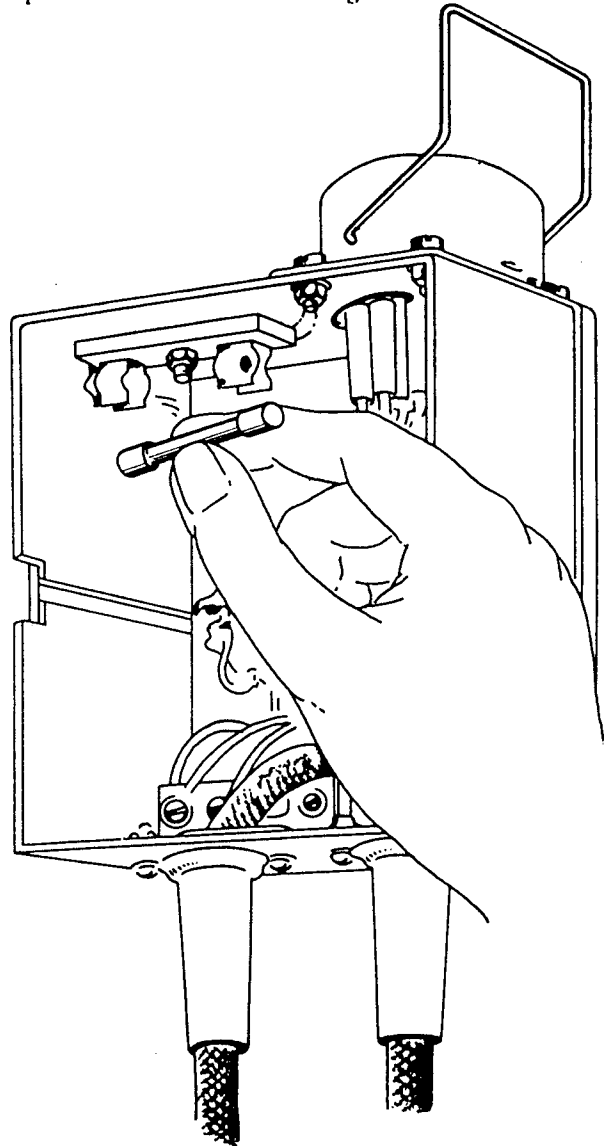

FIG. 7—CHANGING A FUSE IN CONTROL
11. To change a fuse in Control Unit No. 1, proceed as illustrated in Fig. 7.